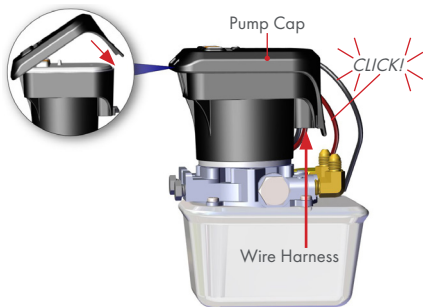

Figure 9
9. Reinstall the **Pump Cap**. You may need to push up on the **Wire Harness** while pushing down on the **Cap**. **FIG. 9**